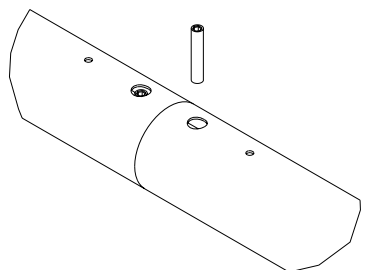

FIGURE 6
3. Insert second set screw and tighten all the way until tube is secure. See Figure 6.
4. Tighten first set screw the rest of the way. See Figure 6.